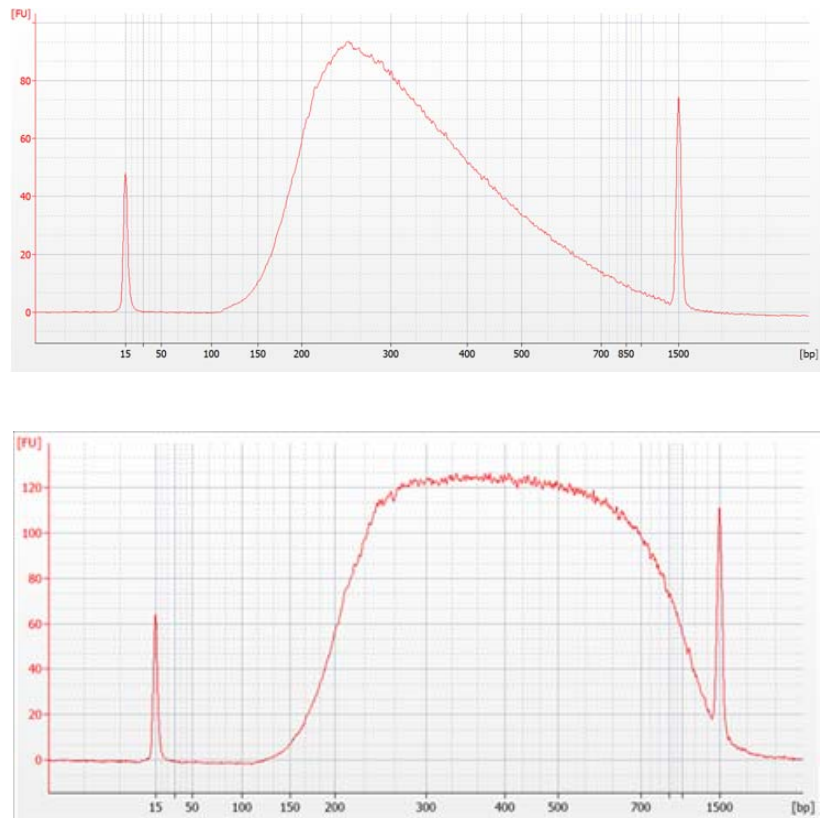

Figure 2 Representative sample electropherograms showing pre-capture analysis of amplified library DNA using the Agilent 2100 Bioanalyzer and a DNA 1000 Assay.
- 3 Verify that the electropherogram shows the peak of DNA fragment size positioned between 245 to 325 bp. Sample electropherograms are shown in Figure 2. Variability of fragmentation profiles may be observed.